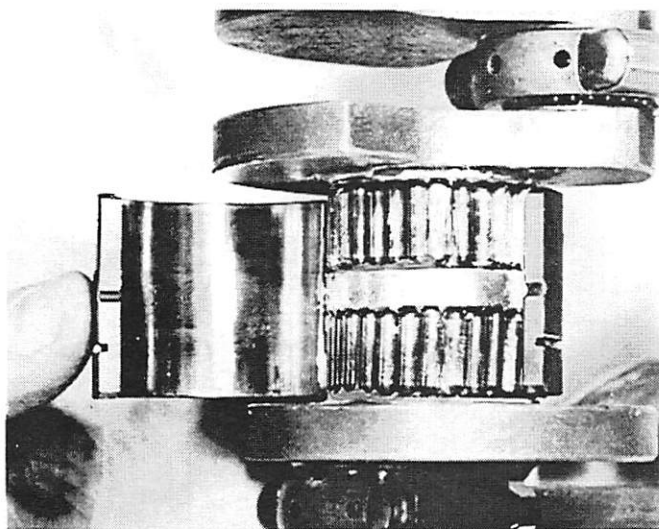

Figure 13. Installing Center Main Roller Bearings and Outer Race
Grease races of center main bearing sufficiently on both sides to hold the 56 roller bearings. Use heavy grease. Space bearings equally around top and bottom halves of outer shell race, 28 in each complete row. On later models, only one row of rollers (28) is used on the crankshaft. Bearings and outer race are the same. Fit snugly on crankshaft and insert snap ring around races. (See Figure 13.) Rotate several times to be sure that no binding will occur. Place stepped dowel in position and fit aluminum halves of center main bearing around it. Tighten each securely with 2 integral Phillips head screws. Either side can be placed up, as locking screw is located in center. Be sure that halves match perfectly. Always recheck for perfect match.